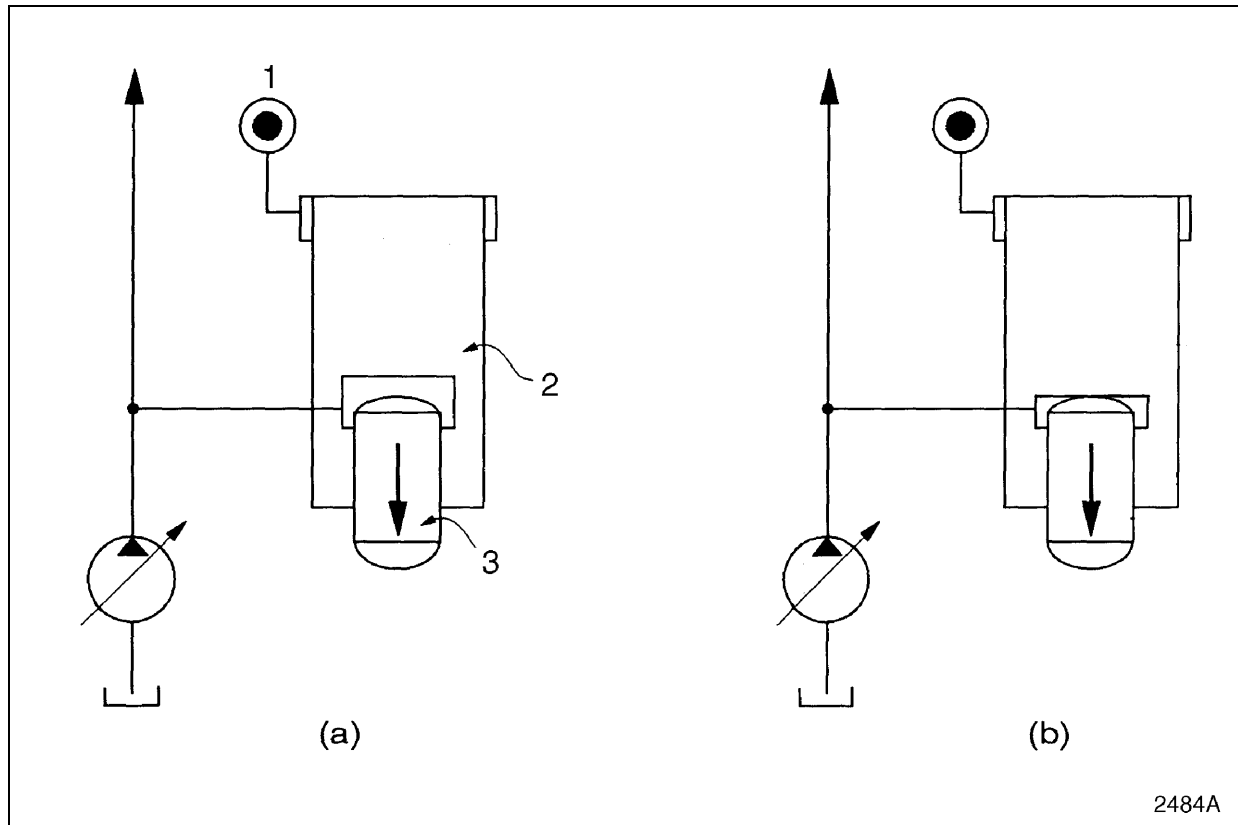
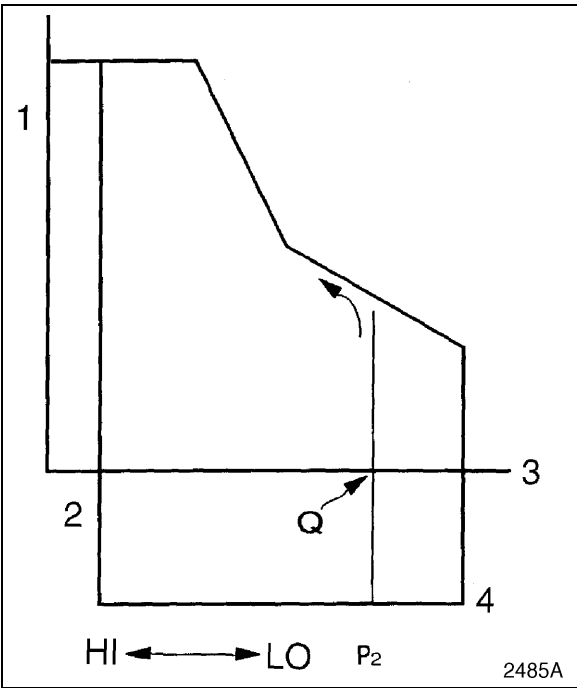

Figure 9
Figure 10
Maximum Discharge is controlled by a valve on the main pump which conserves power and prevents heat build up. When output pressure exceeds the external control pressure established, it moves an external control piston, which controls the pilot piston. See Figure 9.
Output quantity (Q) is determined by external pressure (P2). See Figure 10. Since the external control piston is larger than the pilot piston, when output pressure rises, the quantity of oil remains constant and the external control takes over. See Figure 9.